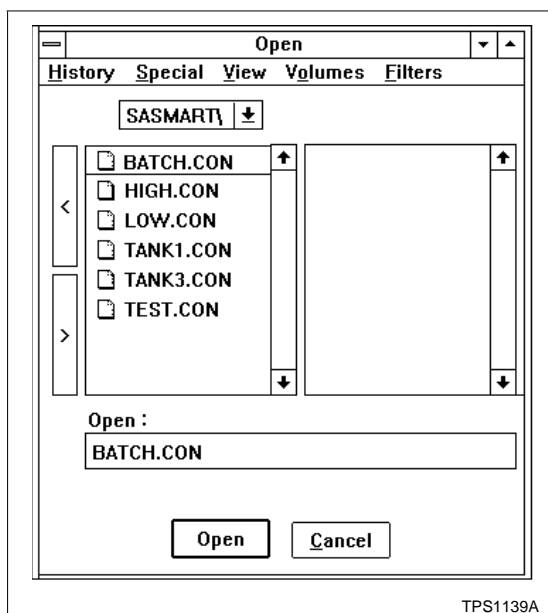

Figure 3-7. File Selection Dialog Box
4. After editing the configuration, click on *Save As* to save the new configuration. A dialog box appears similar to that shown in Figure 3-7. Table 3-11 describes the dialog box.
1. From the main window, select *Config*, then *Open* (CTRL-E). A file selection dialog box appears similar to that shown in Figure 3-7.
Click on *Load* and a dialog box similar to the one shown in Figure 3-7 appears. Table 3-11 describes how to use the dialog box.
1. From the main window, select *Config*, then *Delete* (**CTRL-D**). The file selection dialog box appears (Fig. 3-7).